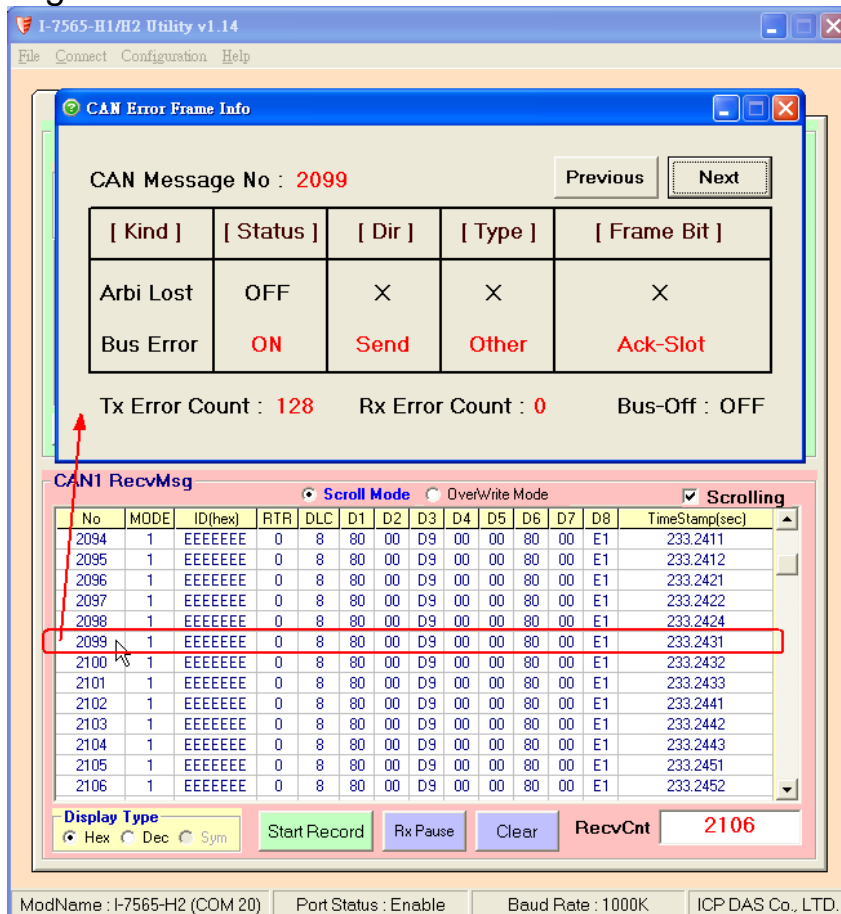

Figure 7-15-2 The detailed CAN Error Information
(3) If CAN error has happened, the CAN error information will be shown in **”CAN RecvMsg”** field. Users can click the error column to see the detailed error information like Figure 7-15-2.